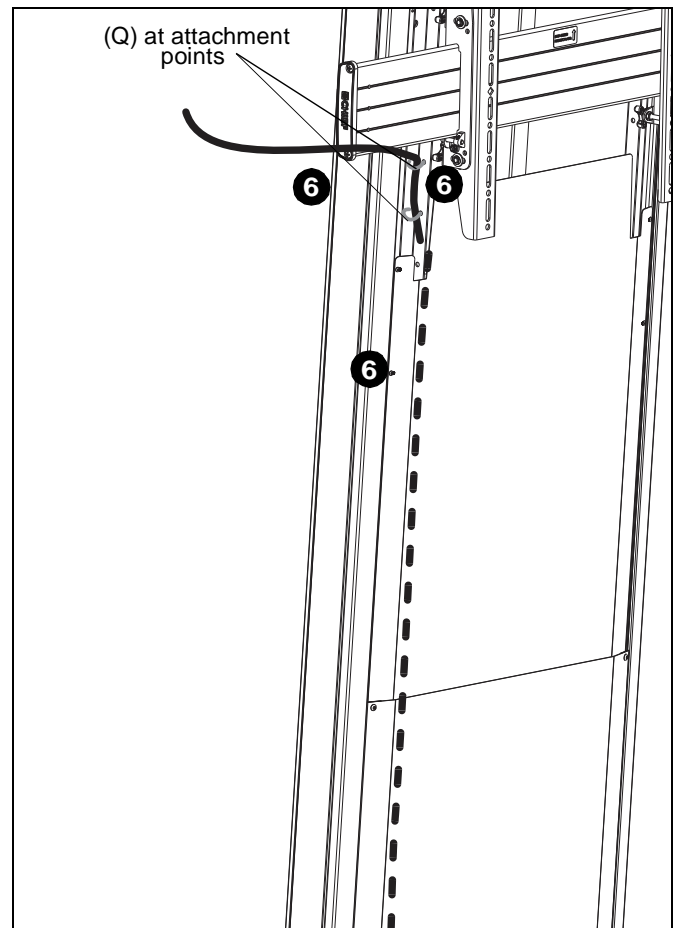

Figure 19
6. Route cables from display through inside of column assembly attaching at cable management attachment points and/or accessory bracket as desired. (See Figure 19)